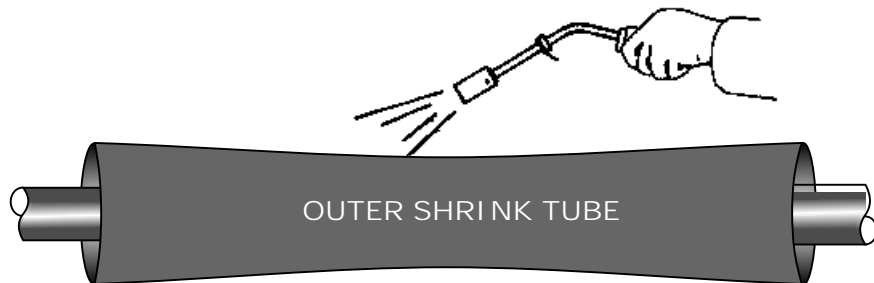

FIG 12
21. Tape over any sharp edges before centralising the Outer Shrink Tube and shrink as previously described in Fig 12.